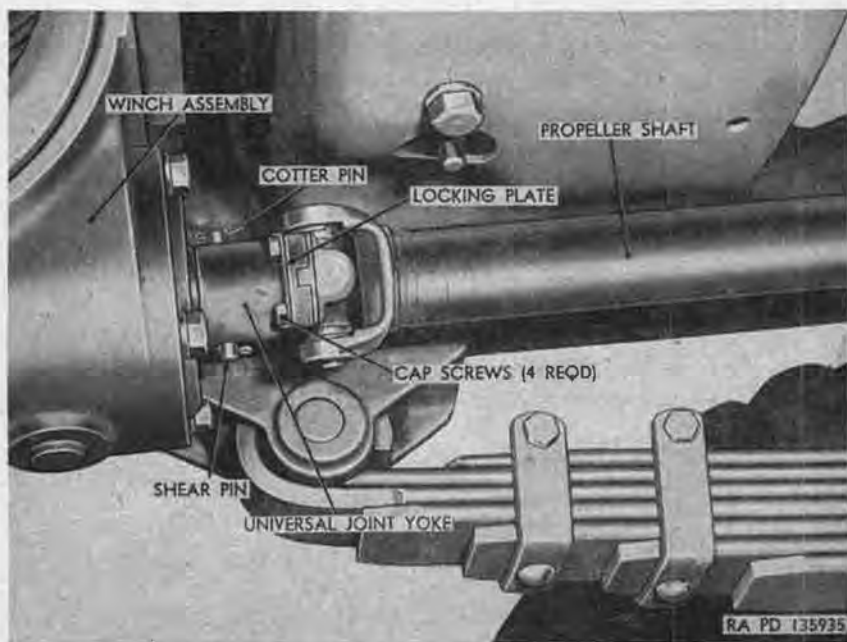

Figure 272. Bottom view of front winch and propeller shaft.
- (2) *Winch drive.* Power for operating the winch is supplied by the truck engine through a power-take-off (par. 208a(2) or (3)) which is connected to the winch by a propeller shaft (fig. 272). The propeller shaft is secured to the winch drive shaft by a shear pin which prevents damage to the winch resulting from overloading.
- (1) Attach hoisting equipment to winch and hoist until slack is just removed from chain or cable.
- (2) Separate propeller-shaft front universal joint from yoke (fig. 272) on winch drive shaft (par. 211a(1)).
- (4) Connect propeller-shaft front universal joint to yoke (fig. 272) on winch drive shaft (par. 211b(1) and (2)).
- (5) Remove hoisting equipment from winch.
- c. *Shear Pin Replacement* (fig. 272). Turn universal joint yoke on winch drive shaft and align shear pin holes in yoke with hole through shaft. Drive broken part of shear pin from drive shaft. Insert new aluminum alloy shear pin in holes in yoke and drive shaft, and install cotter pin in each end of shear pin.